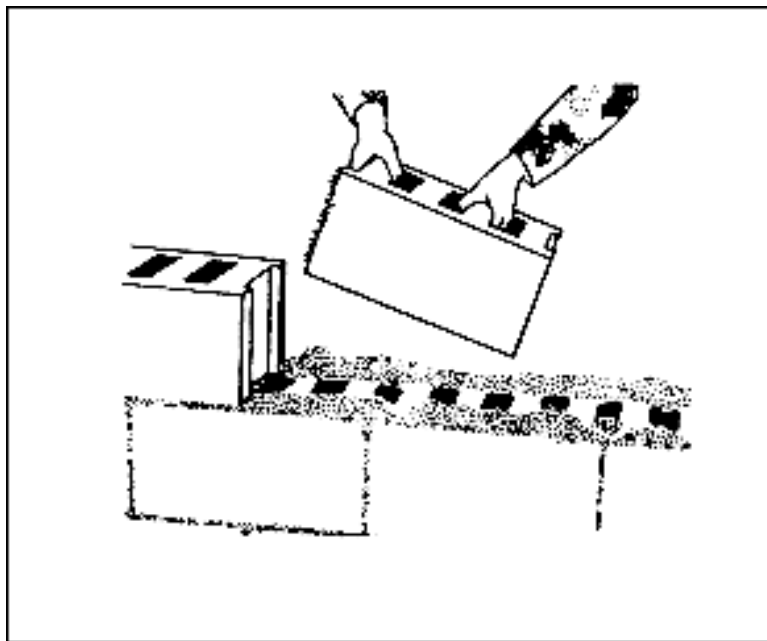

Figure 8-7. Vertical joints
Step 3. Apply mortar to the vertical joints either to the ends of the new block or the end of the block previously laid, or both, to ensure well-filled joints (see Figure 8-7).